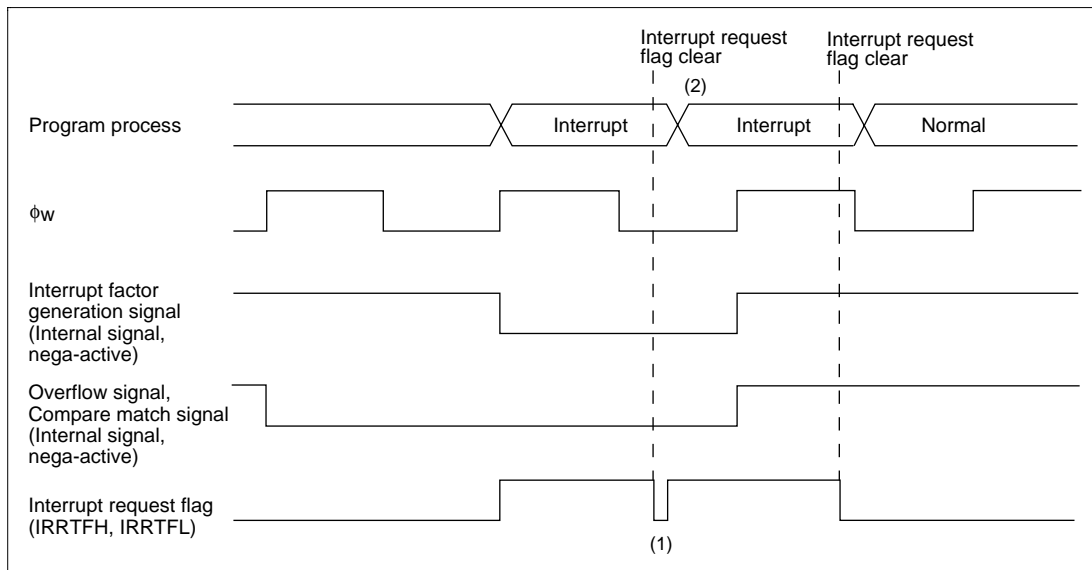

Figure 9.7 Clear Interrupt Request Flag when Interrupt Factor Generation Signal is Valid
When $\phi w/4$ is selected as the internal clock, “Interrupt factor generation signal” will be operated with ϕw and the signal will be outputted with ϕw width. And, “Overflow signal” and “Compare match signal” are controlled with 2 cycles of ϕw signals. Those signals are outputted with 2 cycles width of ϕw (figure 9.7)
In active (high-speed, medium-speed) mode, even if you cleared interrupt request flag during the term of validity of “Interrupt factor generation signal”, same interrupt request flag is set. (figure 9.7 (1)) And, you cannot be cleared timer overflow flag and compare match flag during the term of validity of “Overflow signal” and “Compare match signal”.
For interrupt request flag is set right after interrupt request is cleared, interrupt process to one time timer FH, timer FL interrupt might be repeated. (figure 9.7 (2)) Therefore, to definitely clear interrupt request flag in active (high-speed, medium-speed) mode, clear should be processed after the time that calculated with below (1) formula. And, to definitely clear timer overflow flag and compare match flag, clear should be processed after read timer control status register F (TCSRF) after the time that calculated with below (1) formula. For ST of (1) formula, please substitute the longest number of execution states in used instruction. (10 states of RTE instruction when MULXU, DIVXU instruction is not used, 14 states when MULXU, DIVXU instruction is used) In subactive mode, there are not limitation for interrupt request flag, timer overflow flag, and compare match flag clear.